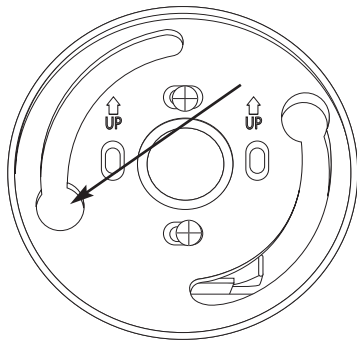

Figure 8
- 6). Place the shoulder bushings in the holes of the dial plate and rotate the keypad so that the keypad is aligned correctly, see *Figures 8 and 9*.